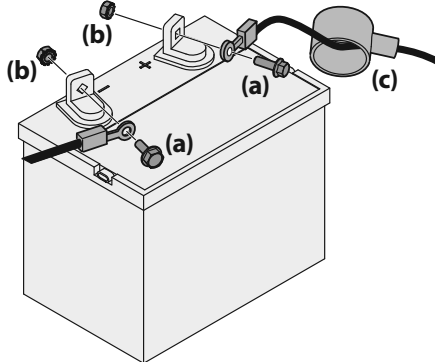

Figure 12
1. If present, remove the plastic cover from the positive battery terminal. Attach the red connector to the positive battery terminal (+) using the bolt (a) and hex nut (b). See Figure 12.
2. If present, remove the plastic cover from the negative battery terminal and attach the black cable to the negative battery terminal (–) with the bolt (a) and hex nut (b). See Figure 12.
3. Position the red rubber boot (c) over the positive battery terminal to help protect it from corrosion. See Figure 12.